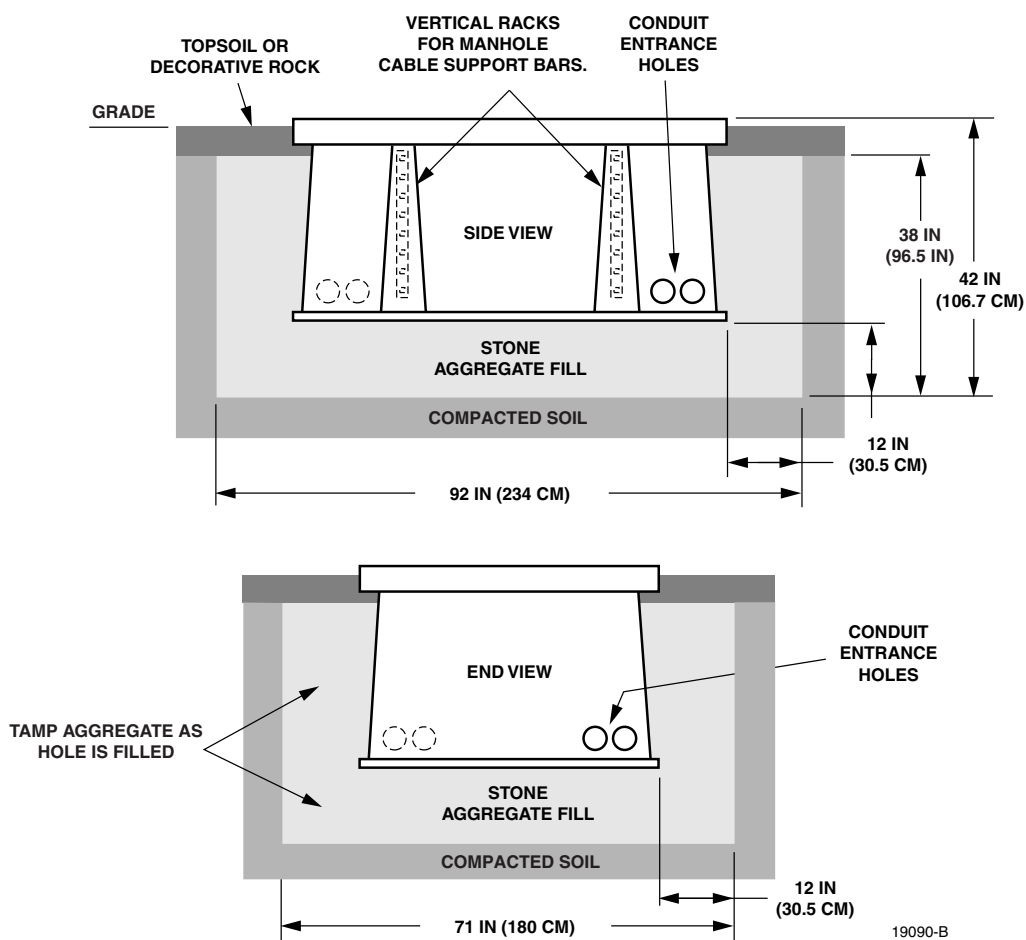

Figure 4. Excavation Recommendations for FMS-20000
The excavation must be large enough to provide a fill base that will maintain stability for the FMS and the cabinet mounted on it. There must be room for 12 inches (30.5 cm) of fill below and on each side of the FMS. The excavation dimensions for the FMS 20000 are shown in Figure 4. Excavate a rectangular hole for the FMS.
Select the conduit entrance hole(s) for the OSP feeder and distribution cables. Refer to Figure 4 for the location of the holes. If necessary, additional conduit entrance holes may be cut using a power drill and hole saw. Place and route the conduit into the entrance hole(s). If preferred, the FMS may be installed without conduit. OSP cables may be routed into the FMS at any point that is convenient. Cut the cable entrance hole to match the size of the cable.
2. Complete the back-fill with crushed rock or topsoil depending on the landscaping requirements. The top surface of the mounting sleeve may be located from 0 to 4 inches (10.2 cm) above the surrounding grade (see Figure 4).